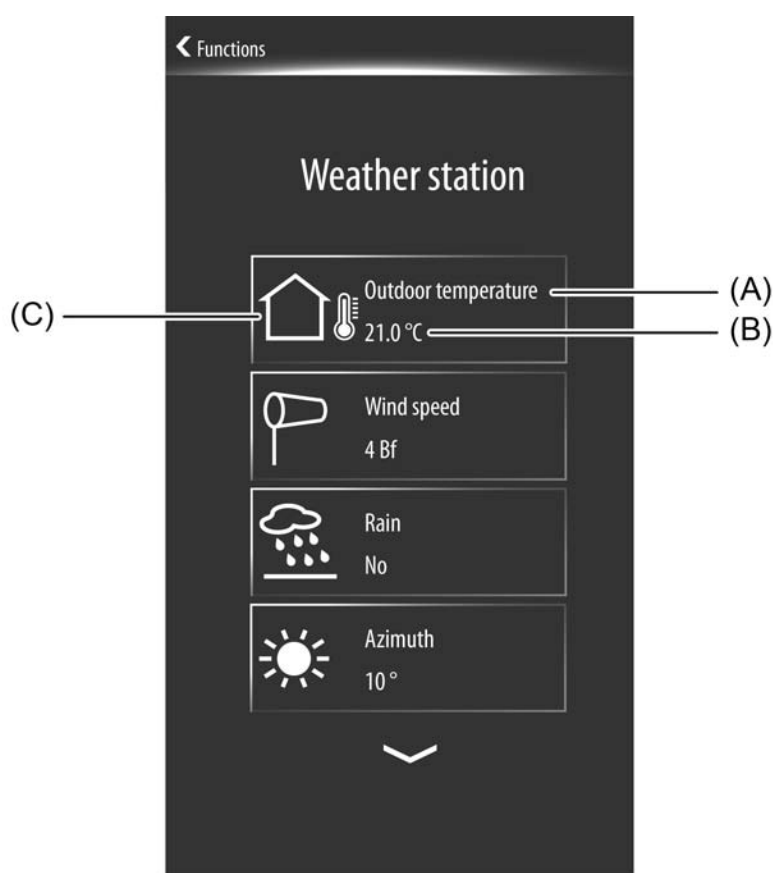

Figure 53: Example of a weather station display page
Each measured value on the display page of the weather station has its own display element (figure 53). The display elements normally contain a measured value symbol (A), a name of the measured value (B) in textual form and the measured value itself (C). The measured value symbols are permanently assigned to the measured values. Only the 4 optionally available external values have no measured value symbols. The text names are entered in the ETS in which each of the measured values is identified individually and can be adapted to the local conditions.